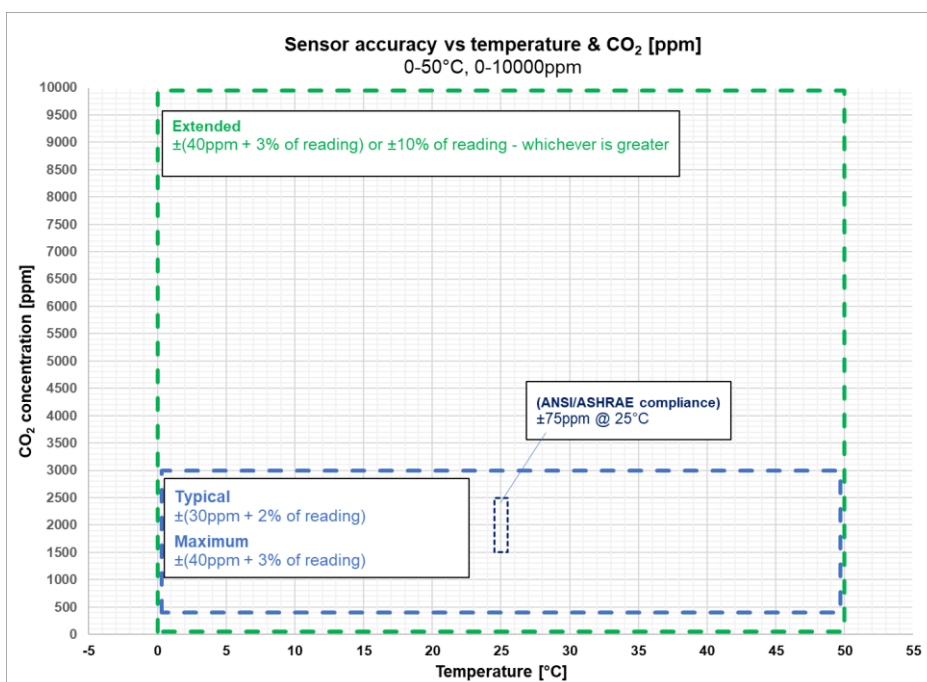

Figure 4 Accuracy over complete operating range (temperature and measurement of CO₂).
- Note 3: ANSI/ASHRAE Addendum ab to ANSI/ASHRAE Standard 62.1-2022 specifies sensor to be accurate within ±75 ppm at concentrations of 600, 1000, and 2500ppm when measured at sea level at 77 °F (25 °C). See Figure 4.
- Note 4: In normal IAQ applications. Accuracy is defined after minimum three (3) ABC periods of continuous operation with ABC on. Some industrial applications do require maintenance. Contact Senseair for further information!